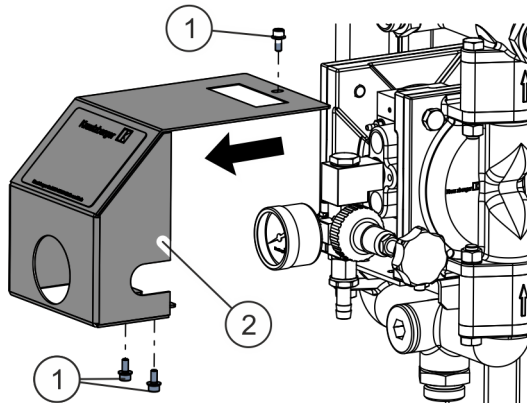

Fig. 11: Panelling
4. ➤ Unscrew the screws (Fig. 11/1) and remove the panelling (Fig. 11/2).